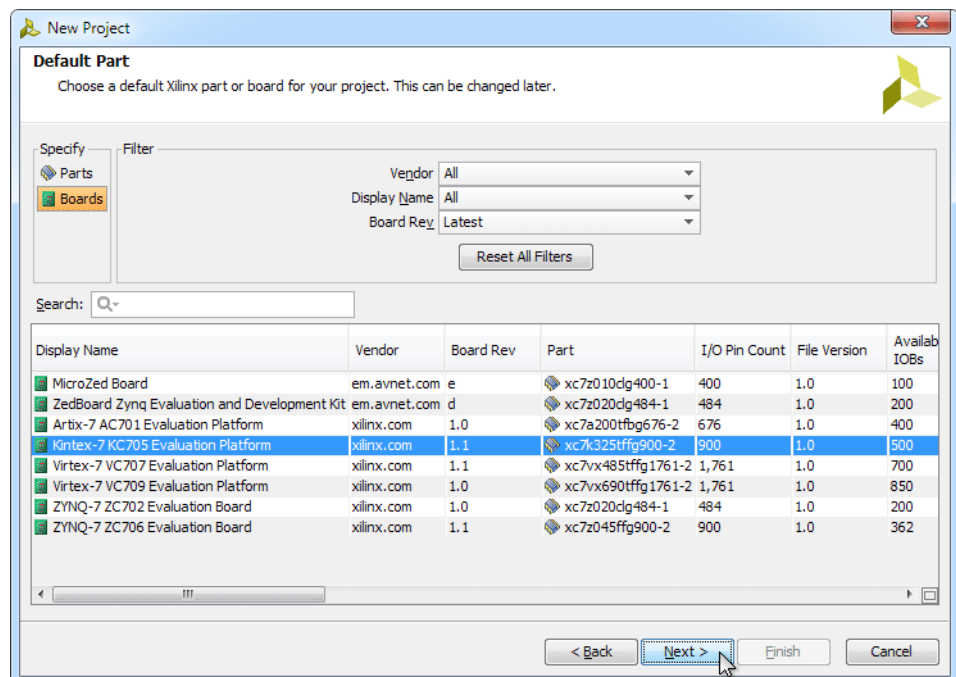

Figure 5: New Project Default Part
5. Click **xc7k325tffg900-2** or, select the **Boards** option and then click **Kintex-7 KC705 Evaluation platform** (Figure 5).